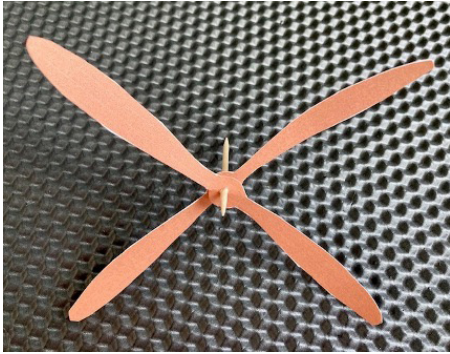

Figure 6. Push the toothpick through the second rotor blade and adjust the blades so they are aligned in opposite directions.
- Push the toothpick through the hole in the second rotor blade and adjust the blades so that they are aligned in different directions as shown in Figure 6. There should be a space of about 1/8 inch between the two rotors.